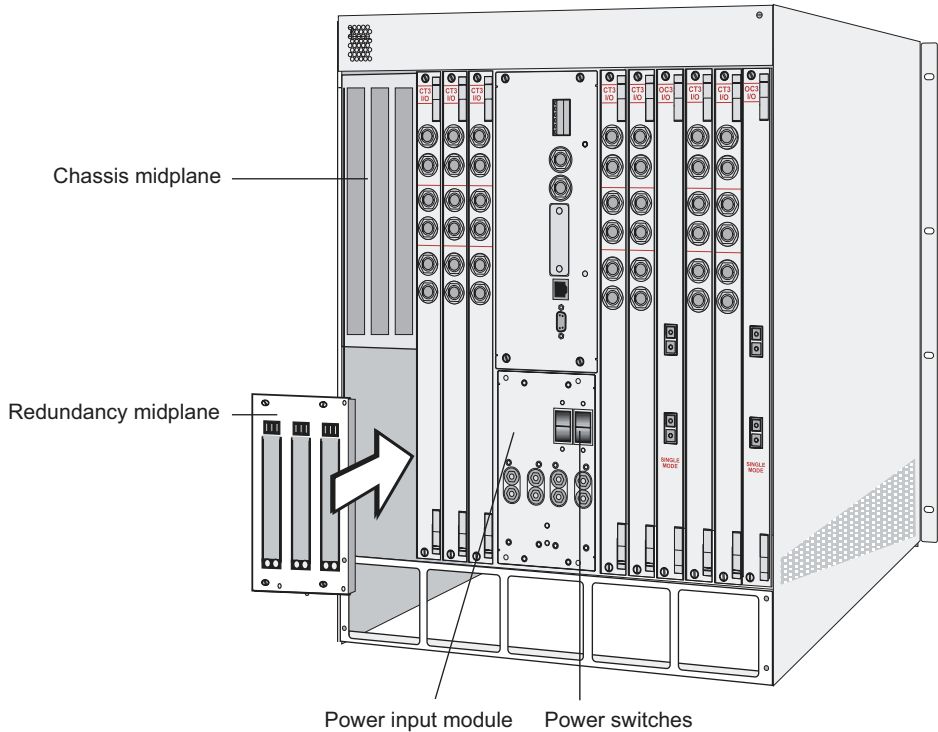

Figure 3-11 Installing a redundancy midplane
- 2 Turn off the power switches located on the power input module in the rear of the system (see Figure 3-11).
- 4 Place the redundancy midplane in the chassis so that it rests against the guides below the chassis midplane (see Figure 3-11).